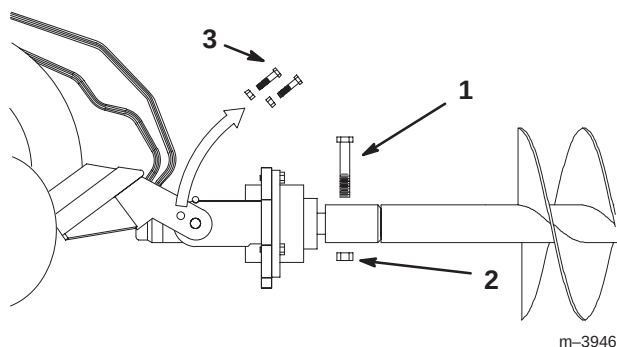

Figure 5
8. Secure the auger to the drive head with the 7/8"–9 x 4–1/2" bolt and 7/8"–11 nut (Fig. 5).
9. Remove the bolts and nuts from the cradle arms that were installed in step 3 (Fig. 5).